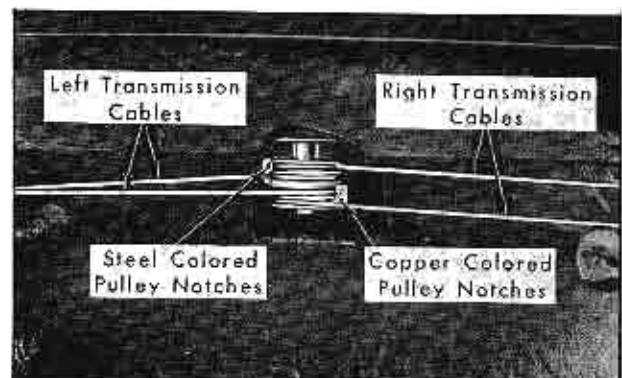

Fig. 3-8 Transmission Cable to Auxiliary Drive Pulley Attachment
6. Attach transmission cables to auxiliary drive pulley, as shown in Fig. 3-8.
**IMPORTANT:** Copper colored cable ends must be installed to copper colored pulley notches and steel colored cable ends to steel colored pulley notches as indicated in Fig. 3-8.